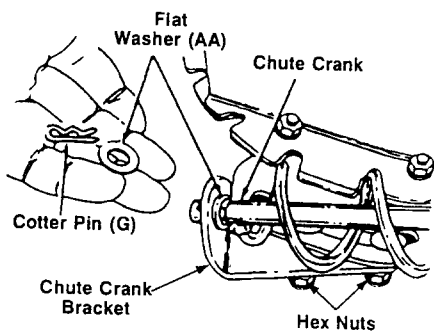

FIGURE 6
- Loosen hex nuts on the lower chute crank bracket and adjust the bracket (see figure 6) so that the spiral on the chute crank fully engages the teeth on the chute assembly. Tighten the nuts on the lower chute crank bracket securely.